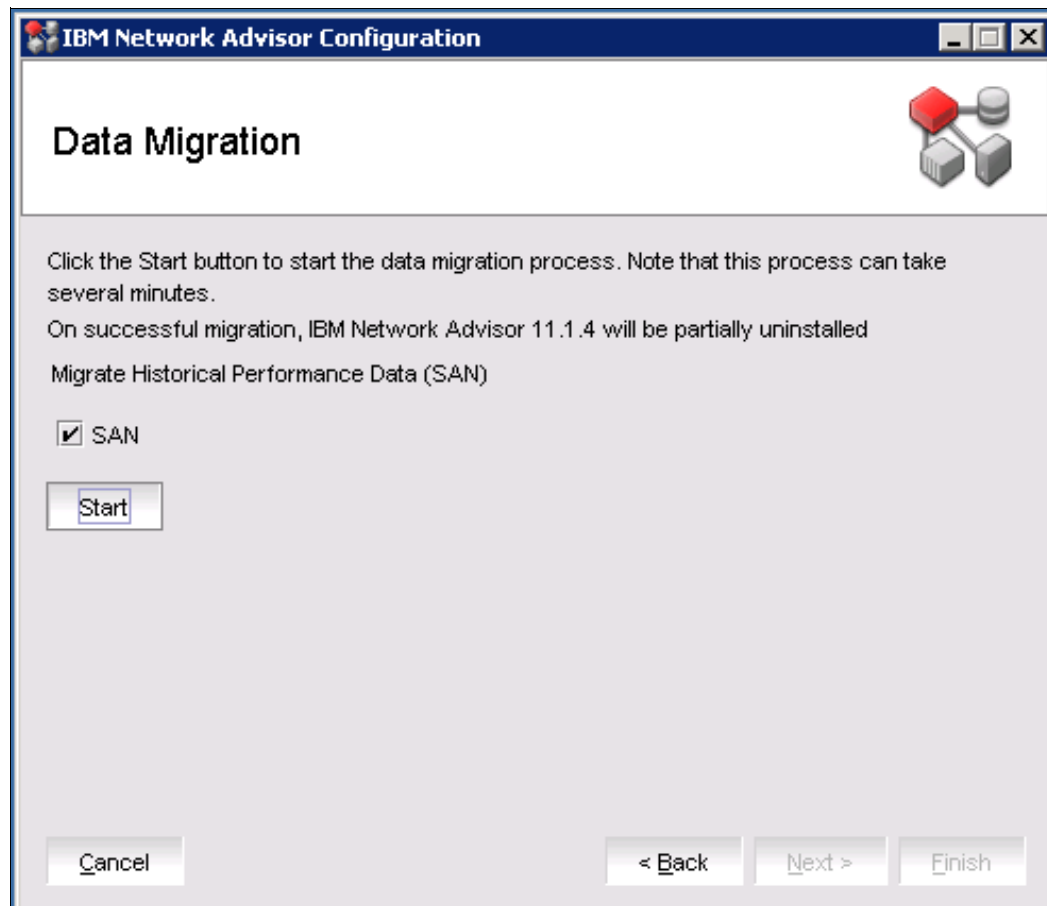

Figure 3-24 Data Migration window
9. The Data Migration window opens, as shown in Figure 3-24. The previous version of IBM Network Advisor is partially uninstalled and then the Historical Performance data, if any, is migrated. Select the **SAN** check box and click **Start** to migrate the data and settings.